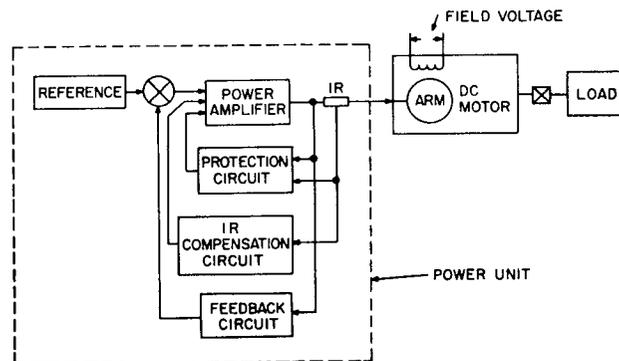

FIGURE 12 BLOCK DIAGRAM OF DRIVE WITH ARMATURE FEEDBACK
Figure 12 is a basic block diagram of the standard Saber 3100 drive with armature voltage feedback and load (IR) compensation. Armature voltage is used as an approximate measurement of speed. Speed is not directly monitored. Since speed of a dc shunt motor decreases slightly when load is applied, and increases when load is removed, a load (IR) compensation circuit is included to compensate for load induced speed changes. A compensated reference circuit is used to adjust power amplifier output to compensate for line voltage variations.